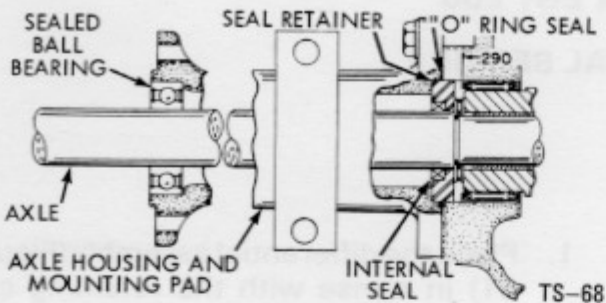

Figure 79 - Bushing and Seal Assembly, Axle Housing
14. Assemble axle housing (Figure 79) as follows: